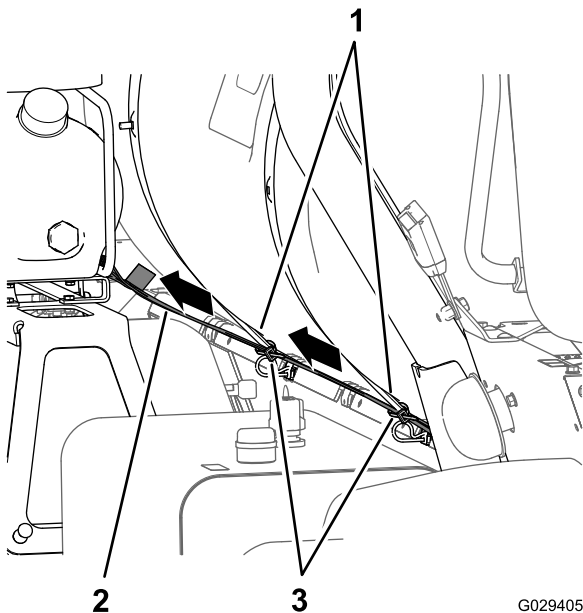

Figure 8
1. Locate the 236 cm (93 inch)—compressor branch of the wiring harness with a 4-socket connector and route the wiring branch rearward along the sprayer tank as shown in Figure 7 and Figure 8.